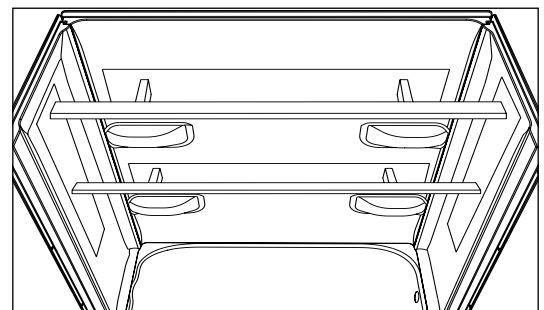

FIGURE 9. Apply pressure by cross bracing left and right panels while also applying pressure to the back panel.
- j. Apply pressure to panels while adhesive dries with cross bracing (Fig. 9). Panels must be held tight to studs during drying process.